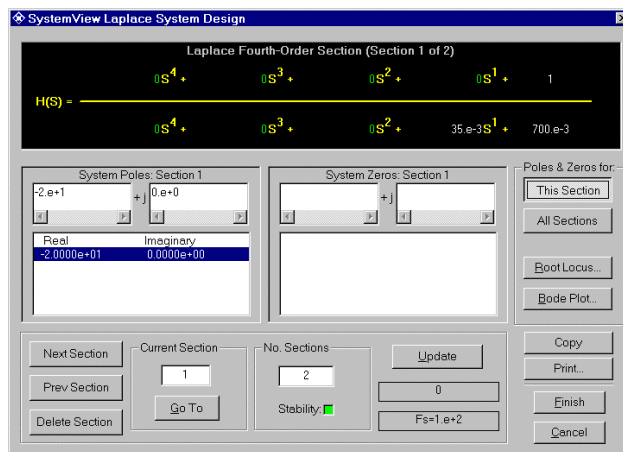
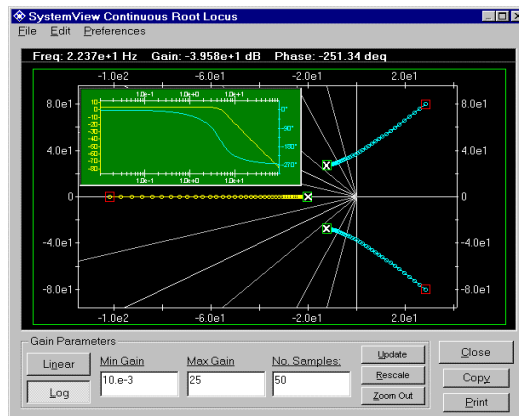

Figure 6.23 The Laplace System design window
Figure 6.24 Root Locus plot (and Quick-View Bode plot) for the third-order example
The Laplace System design window, shown in Figure 6.23, appears when the Laplace menu is selected. Figure 6.24 shows the first of two, fourth-order sections corresponding to the Laplace system discussed in the following example:
- Click the Root Locus button to see the plot shown in Figure 6.24. Press the Ctrl key and click/drag the mouse to zoom any portion of the display.